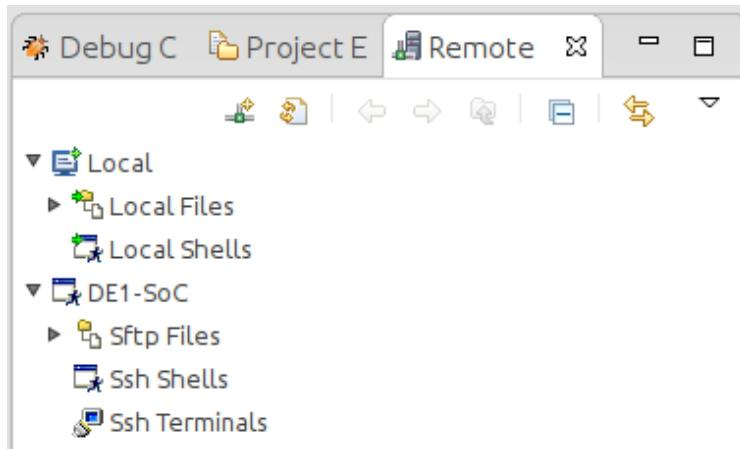

Figure 13-18. New SSH Connection In "Remote Systems" View
73. You should be able to see the remote system in ARM DS-5’s “Remote Systems” view, as shown in Figure 13-18.